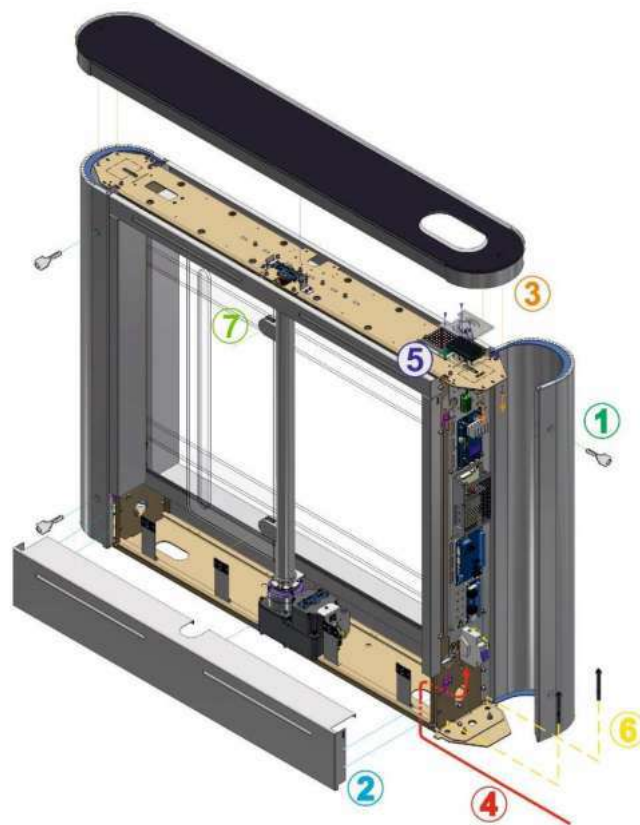

Fig. 21 - General view of the "Sweeper-G-BM-1" turnstile cabinet installation
1. - Locks to be unlocked by key and door to be turned (See Fig. 21);